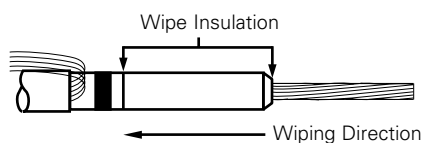

Figure 19. Line illustration of insulation cleaning.
- Clean insulation thoroughly with solvent dampened rag, wiping from conductor end toward insulation shield. (Refer to Figure 19.)